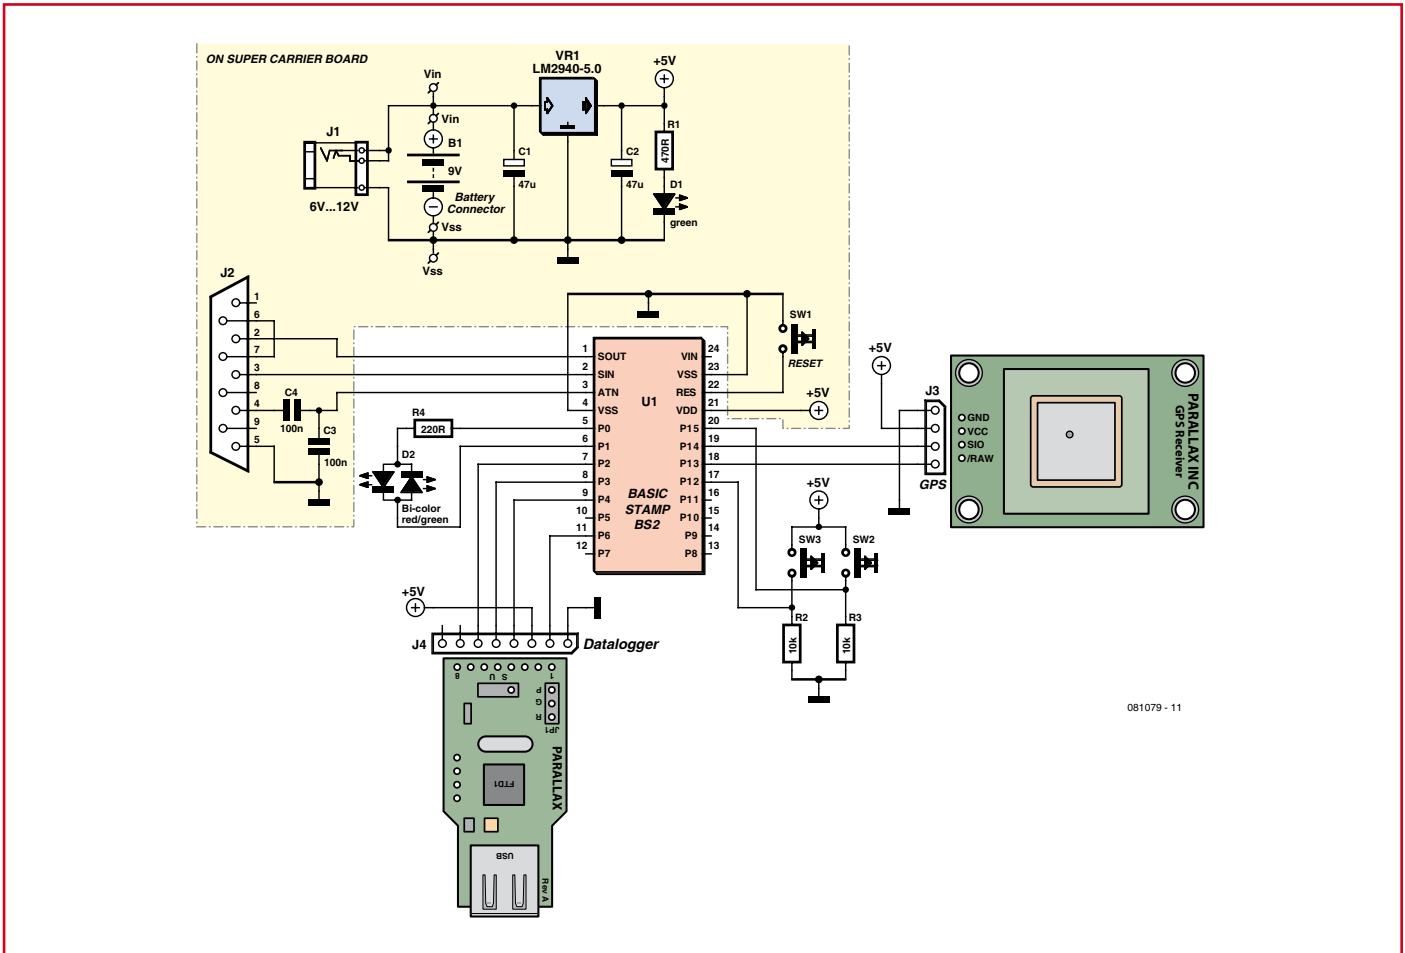

Figure 2. GPS Datalogger schematic. The yellow area indicates the Super Carrier board.
**Figure 2** shows the schematic for the GPS Datalogger. For the sake of com-